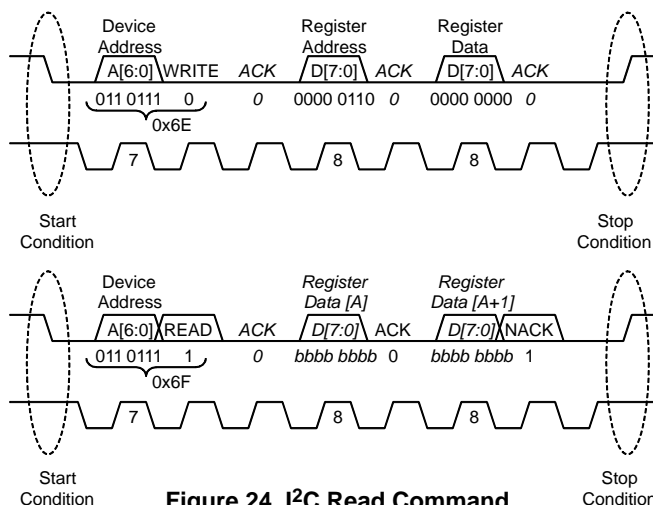

Figure 24. I2C Read Command
Figure 24 shows an I2C read command sent by the master to the slave device. Read transactions begin in much the same manner as the write transactions in that the slave address must be sent with a write(0) command bit.